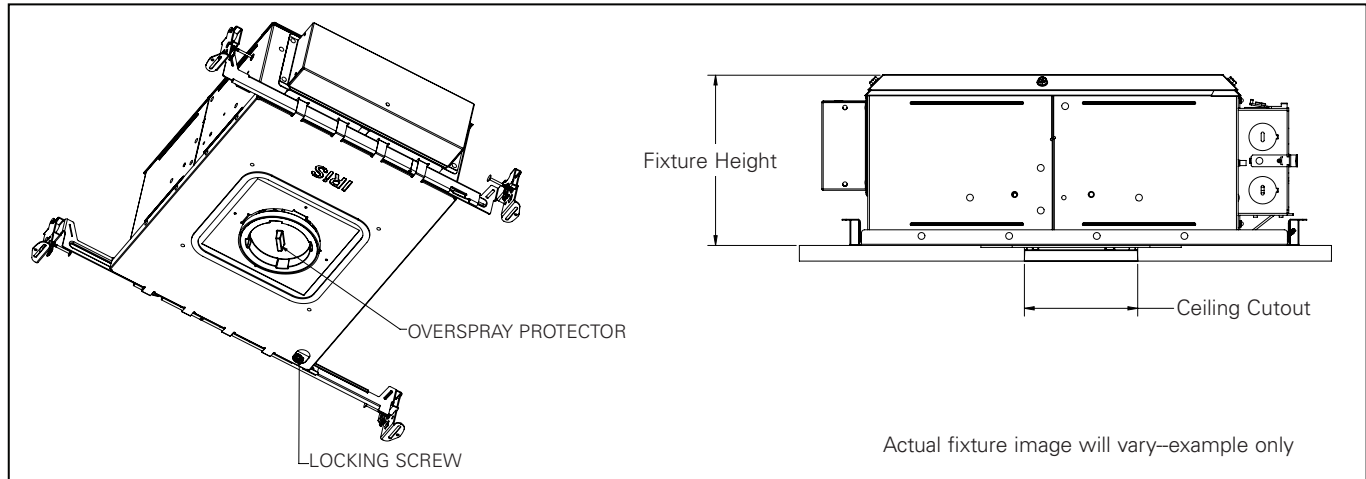

Figure 1.
4. Position fixture on hanger bars. To secure fixture position in ceiling tighten hanger bar locking screw to lock fixture in place on bars (Figure 1).
4. Center fixture over opening. To secure fixture position in ceiling, tighten screws to lock fixture in place on bars. (Figure 1.)